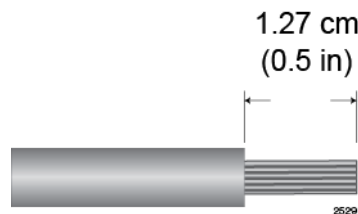

Figure 125. Stripping the Stranded Grounding Wire
1. Prepare an adequate length of stranded 10 AWG grounding wire by stripping it as shown in Figure 125.